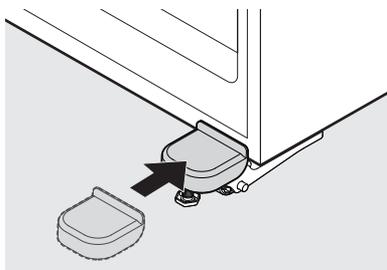

Figure 8
18. Reinstall the hinge cover by gently bending the cover tabs outward, while sliding the cover over the hinge until it clicks into place (see Figure 8).